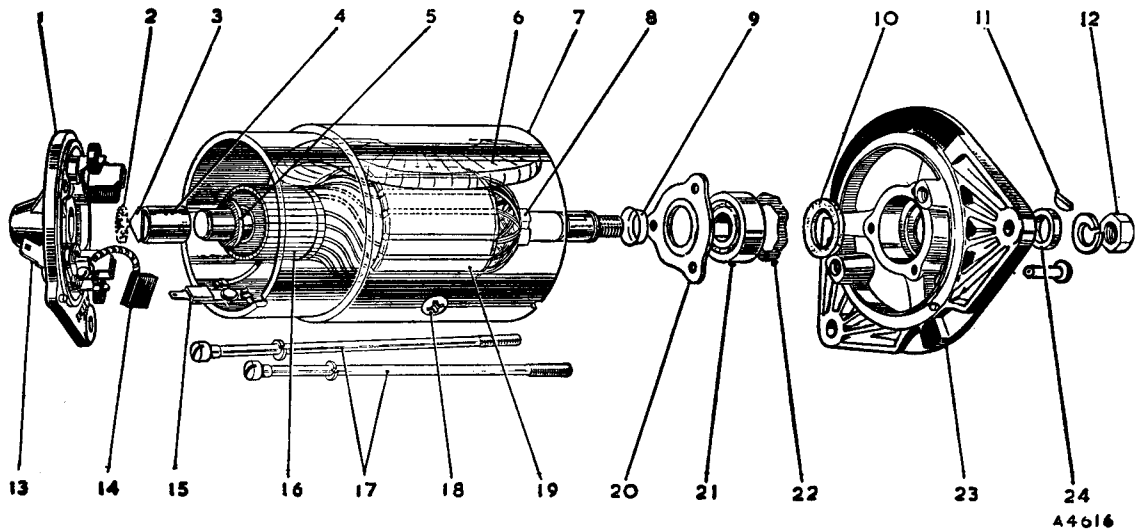

Fig. N.1
- (2) Unscrew the nut and take off the pulley.
- (3) Extract the key from the shaft.
- (4) Withdraw the two through-bolts and remove the commutator end bracket.
- (5) Lift the driving end bracket with the armature and bearing out of the yoke.
- (6) To remove the bearing, press off the end bracket.
- (12) Withdraw the pole-shoe securing screws (Fig. N.1), draw the shoes and coils from the yoke and remove the coils from the shoes.
- (13) Fit new coils to the shoes and refit them to the yoke with the shoes in their original positions. Refit the insulating piece at the junction of the coil windings, insert the screws, press the shoes in place with an expander, and tighten the screws (Fig. N.1).